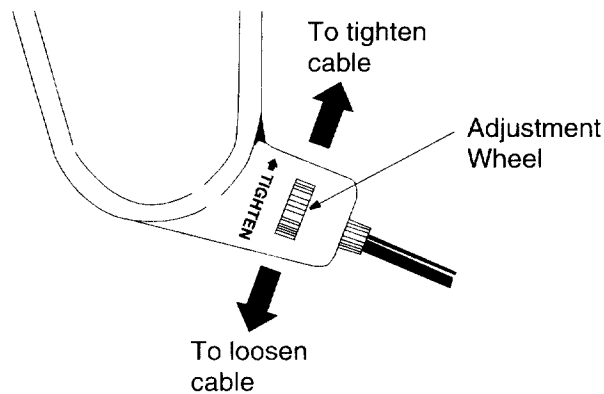

FIGURE 13
- To resolve the above problems, rotate the adjustment wheel with your fingers: clockwise to tighten the cable, and counter-clockwise to loosen the cable. See Figure 13 .